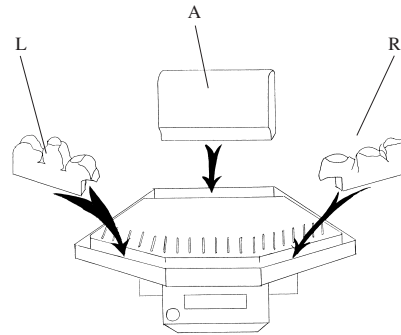

fig.1
1. Place the ceramic rear insulating plaque (A) at the rear of the fire burner (fig. 1) making sure that the taper of the plaque corresponds with the taper of the burner tray.
2. Place the right hand (R) and the left hand (L) moulded coal matrix along the front edge of the fire burner (fig. 1) making sure that no part of these coals touch the pilot assembly in the centre front of the fire tray.